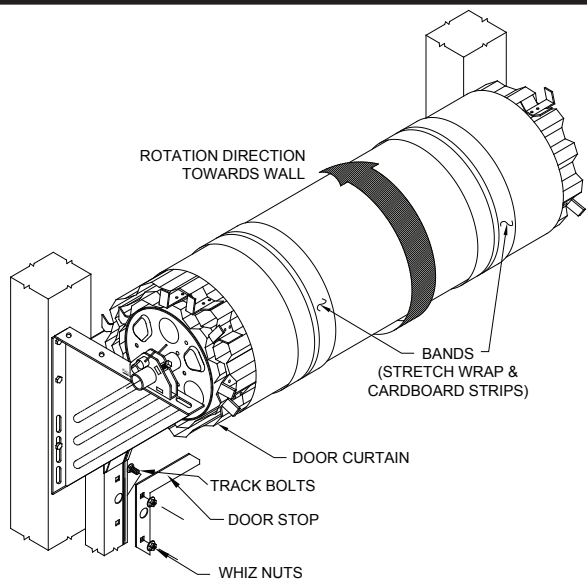

Figure 13.
8.1 Install the track bolts, door stops and whiz nuts in each side guide as shown in Figure 13. Do not tighten at this time. Note there are three holes for the top stops - use the lower two holes if exterior door handles will be installed and use the upper two holes if no exterior handles will be installed. Both top stops will need to be in the same set of holes on each side of the door for proper operation.
door and push away from you rotating the door nest (Figure 13). Rotate the door nest two complete revolutions. Hanging on to the door bottom assembly, carefully cut the steel bands and feed the door curtain into the guides, moving the door stops aside to let the bottom bar move past. Pull the door bottom assembly down to waist level.